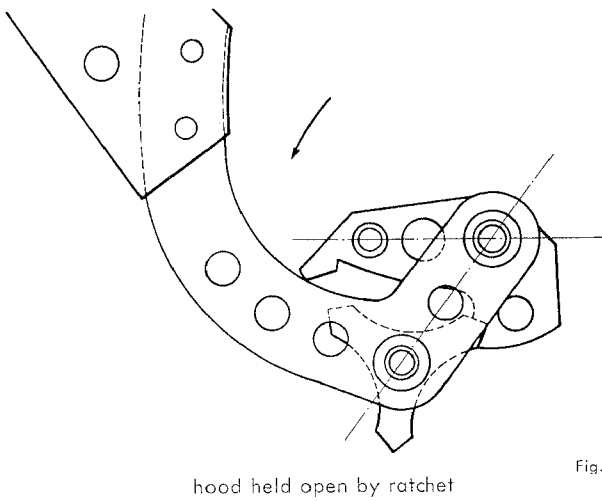

Fig. 7
When opening the hood, the ratchet (1) engages the inside of the forward catch (2) which holds the ratchet (Fig. 6) in a position where it will lock the hinge when it is lowered (Fig. 7).